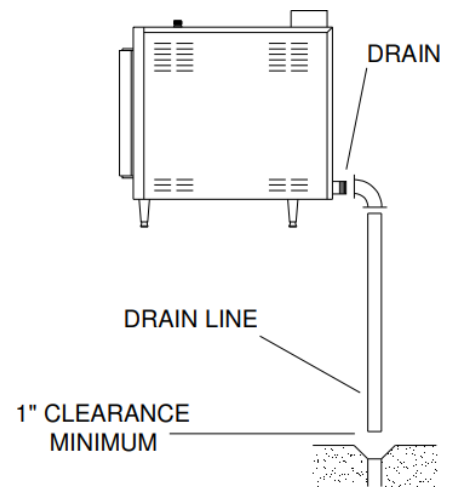

Figure 3-9
3. Free air venting requires a minimum 1” clearance between the end of the drain line and the top of the floor drain. See Figure 3-9.